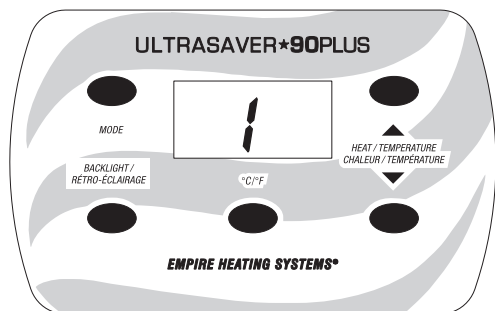

Figure 7
1. To operate the wall furnace in Manual mode, press the "Mode Select" button on the display panel twice from off mode until a number appears in the Heat Level location on the display panel. See Figure 7. The wall furnace will begin the start up sequence.